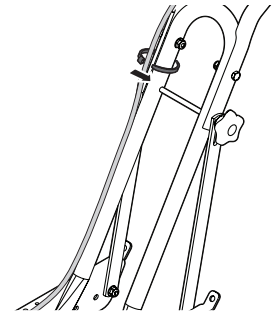

Figure 8
2. Route the emergency stop control wire up the outside on the right side lower handle support and right side handle support bracket. Secure the wire to the handle and support with a cable tie, slightly above the support bracket. See Figure 8.